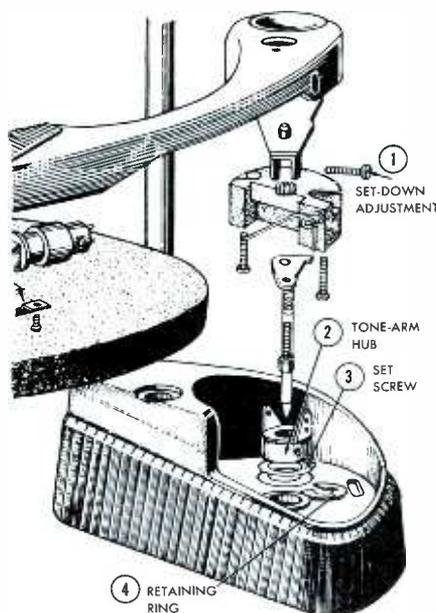

Fig. 1. Set-Down Adjustments on Admiral Changers.
4. At this point a fairly accurate adjustment can be made by rotating adjustment screw (1), shown in Fig. 1. Turning this adjustment screw clockwise moves the set-down point of the tone arm farther away from the spindle. Turning the screw counterclockwise moves the point closer to the spindle. When correctly adjusted, the needle should land approximately 1/8 inch in from the edge of the record.